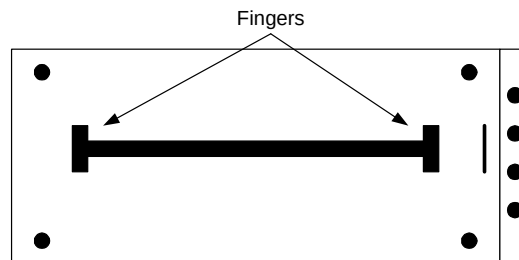

Figure 2-5 MCC Mounting Bracket
2. After you lay out these holes, attach the MCC mounting brackets to the plywood panel using No. 10, 3/4-inch self-tapping screws. (See *Figure 2-5 MCC Mounting Bracket*).